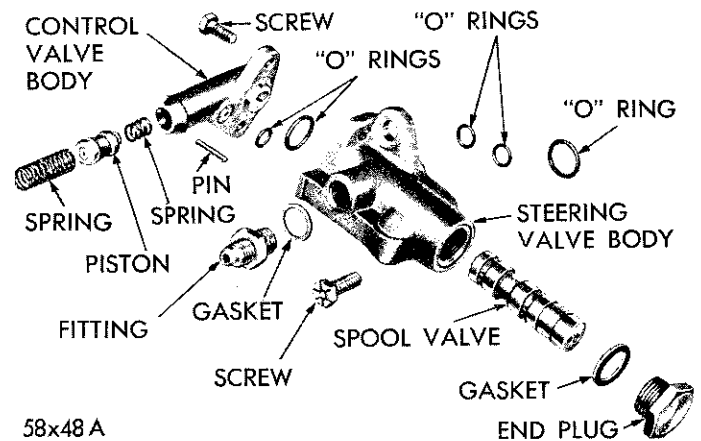

Fig. 35—Control Valve (Disassembled)
27. STEERING VALVE ASSEMBLY (Fig. 35)